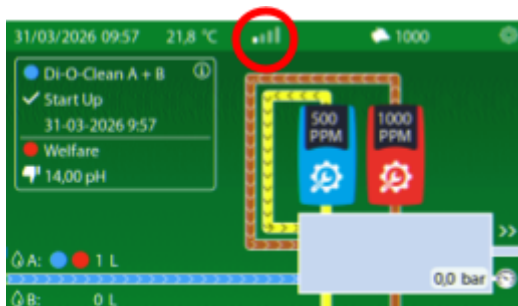

Figure 65.
- Sufficient range: The connection is stable once 2 or more bars are visible (see Figures 65 and 66).